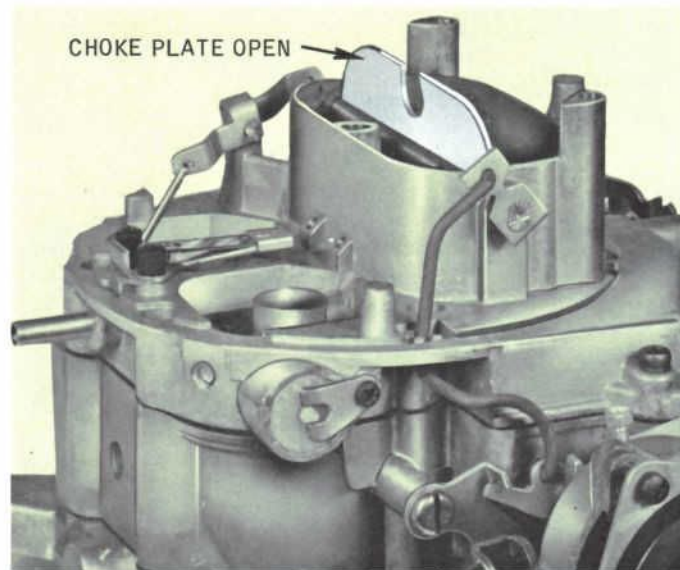

Fig. 30 — Choke Plate in Full-Open Position
4. Be sure the choke plate is in the full-open position (Fig. 30).